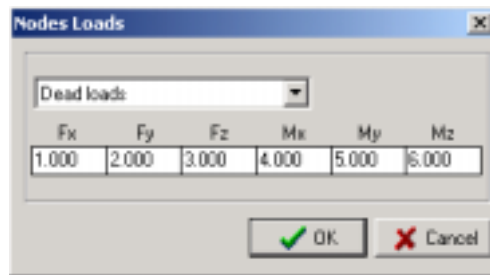

Figure 91 The NODE LOADS dialogue box.
3. Click on the "NODE LOADS" command. The dialogue box of figure 91 will appear.